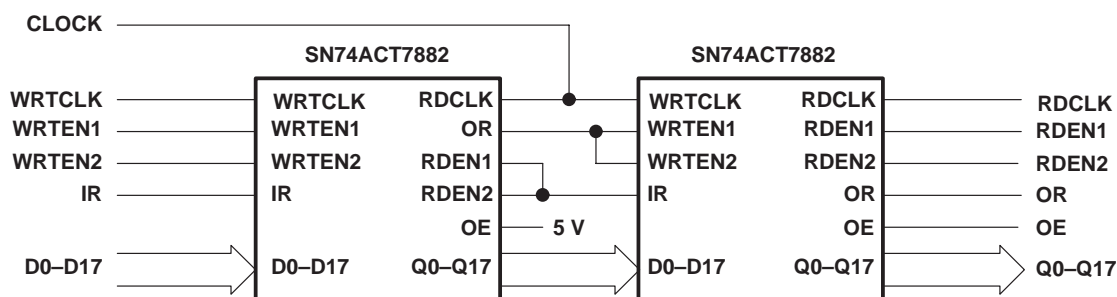

Figure 8. Word-Depth Expansion: 4096 × 18 Bits
The SN74ACT7882 is expandable in both word width and word depth. Word-depth expansion is accomplished by connecting the devices in series such that data flows through each device in the chain. Figure 8 shows two SN74ACT7882 devices configured for depth expansion. The common clock between the devices can be tied to either the write clock (WRTCLK) of the first device or the read clock (RDCLK) of the last device. The output-ready (OR) flag of the previous device and the input-ready (IR) flag of the next device maintain data flow to the last device in the chain whenever space is available.